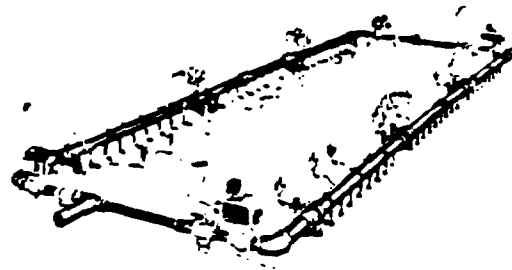

FIG. 29—Pilot Connections
2. Connect a No. 50 thermocouple from the left front pilot burner to the BASO 500 series automatic pilot valve in the main gas line. Connect a No. 80 thermocouple (smaller diameter tube than No. 50) from each remaining pilot burner of the left front pilot burners (See Fig. 29), to one of the BASO 808 series automatic pilot valves.